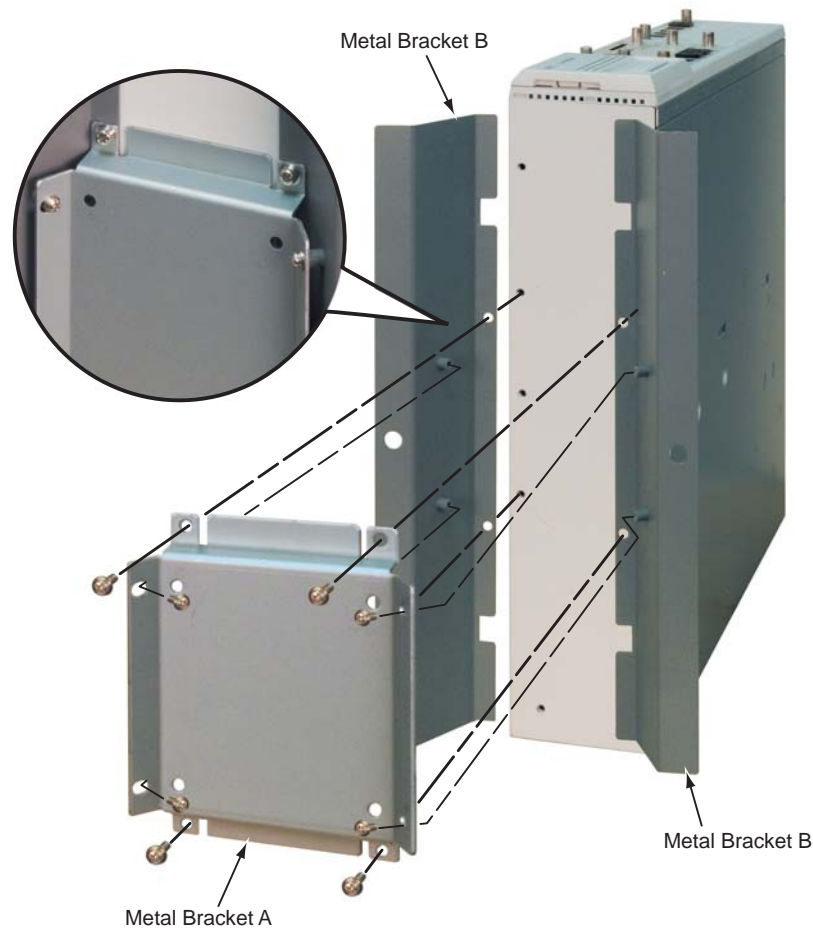

Figure 1-75: CONNECTING THE BRACKET TO THE CHASSIS-A
1.7.7 Securing a Single Chassis-A to the Floor (Figure 1-75)